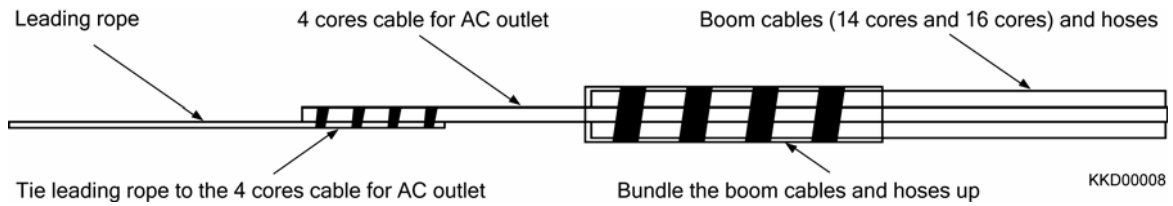

Fig. 2-37
- 12) Bundle the boom cables and hoses up, and then tie the leading rope to the 4 cores cable for AC outlet (Fig. 2-37)